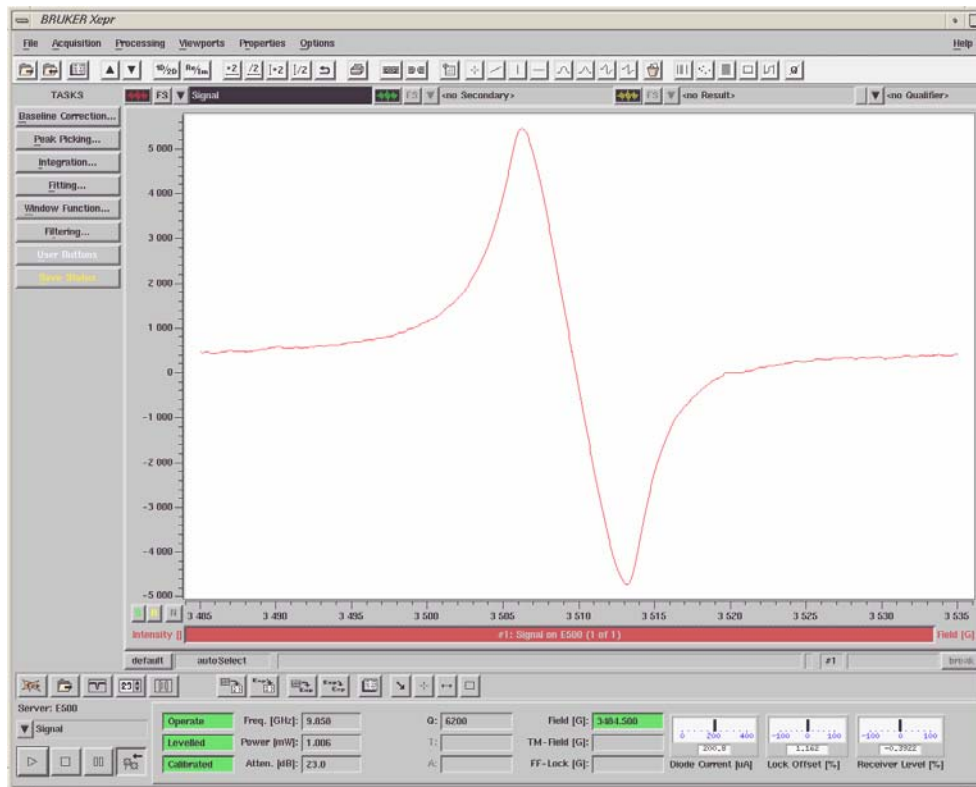

Figure 3-8 The weak pitch signal.
8. **Acquire a signal spectrum.** Click the Run button to acquire a spectrum. It should look similar to Figure 3-8.